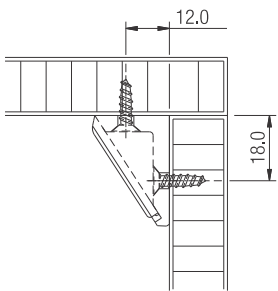

Fig 1
1. Drill holes to be 12 mm & 18 mm from inner edge as shown in Fig. 1.